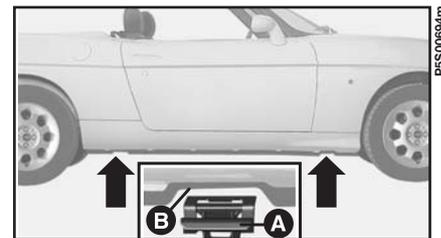

fig. 4
8) Place the jack near the wheel to be changed and make sure groove **A** **fig. 4** of the jack fits snugly into slot **B** of the long member.